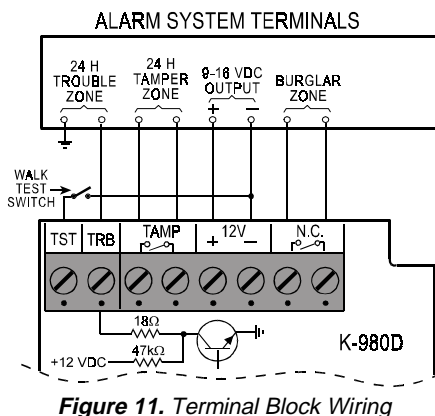

Figure 11. Terminal Block Wiring
**Trouble Output:** Open collector, 100 mA max., with 18Ω resistor in series and 47 kΩ pull-up (see Figure 11)
Refer to Figure 11 and connect wires to the terminal block in the order given below:
\* The LED may be enabled remotely with a test switch connected to the TST input as shown in Figure 11.